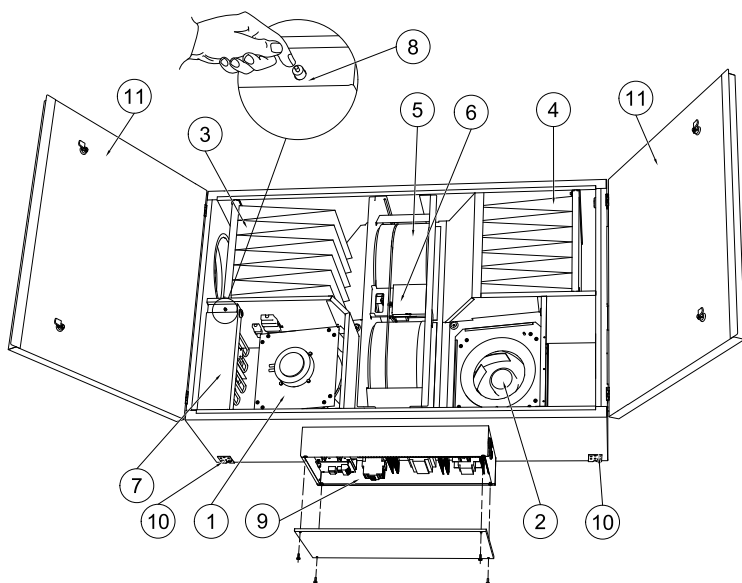
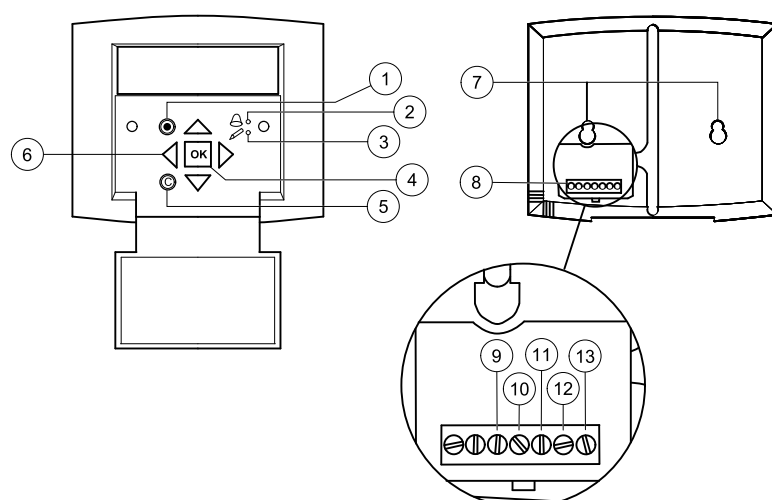

Fig. 3 Components EL units
Fig. 5 The control panel
The heating rods are located in the heater beside the supply air fan and the material is stainless steel. The electric heating coil has both automatic and manual overheating protection. The manual overheat protection is reset by pushing the red button on top of the electrical heater frame (pos.8, figure 3). The power demand of the electric heating coil is controlled by a triac power regulator (Pulser) according to the desired supply/extract or room air temperature that is set in the control panel.
The SCP control panel is delivered with a 10 m cable that is connected to the panel and with a fast coupling contact, connected to the Topvex unit. The contact is connected to the **Corrigo** controller in the electrical connection box (figure 3). The cable can be unscrewed in the back of the control panel (figure 5).
General information is shown in figure 5.